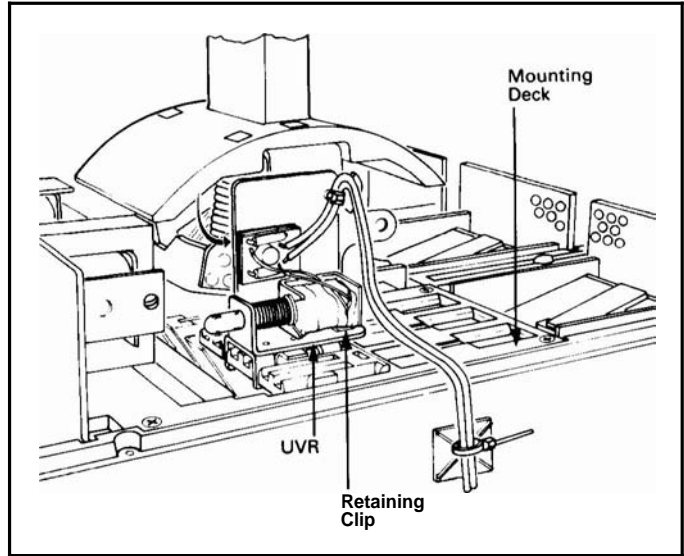
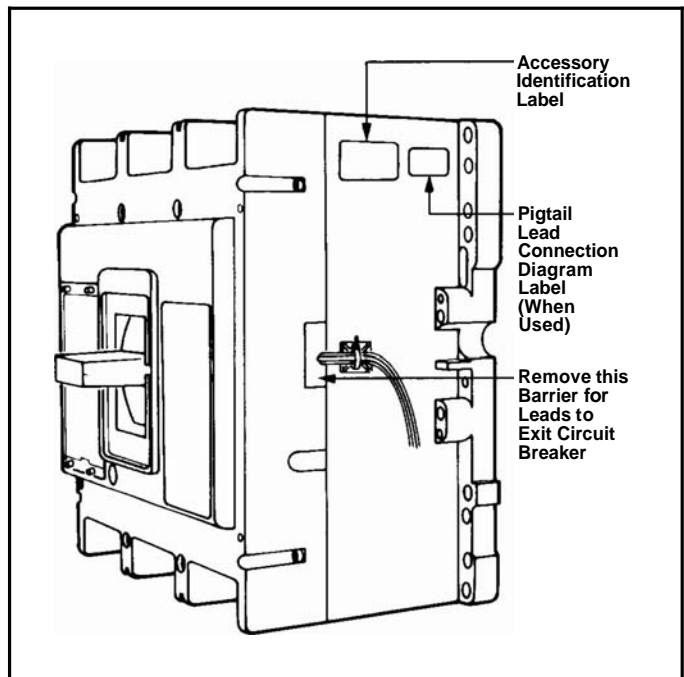

Fig. 2-3 UVR Positioned and Locked in Mounting Deck
Fig. 2-4 Preferred Mounting Locations for Accessory Nameplate Labels
- Place legs of UVR mounting bracket into slots in accessory mounting deck (see Fig. 2-3).
2.6. Attach cable tie mounting pad to side of circuit breaker (see Fig. 2-4 for location). Route leads to mounting pad. Ensure leads line up with slot in cover and are clear of all moving parts. Secure leads to mounting pad with cable tie. Leads from multiple accessories may be secured by a single cable tie and mounting pad (see Fig. 2-3).
2.7. Remove barrier indicated in Fig. 2-4 from cover accessory lead slot.
- 2.9. Position accessory labels supplied with kit on circuit breaker as shown in Fig. 2-4.